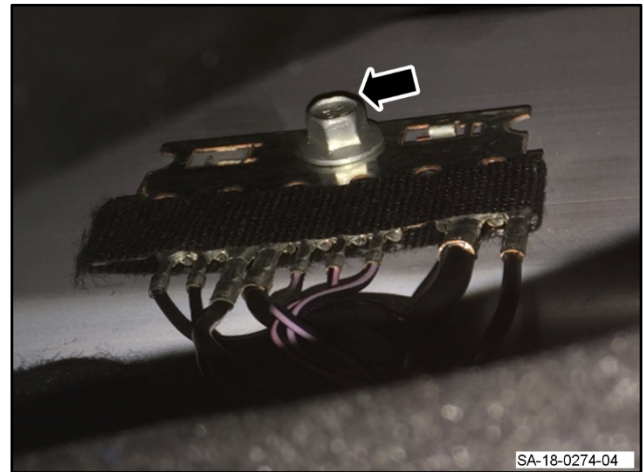

Figure 4
4. Remove and discard the M6 x 10 hexagon-headed flange bolt that attaches the ground plate (refer to Figure 4).